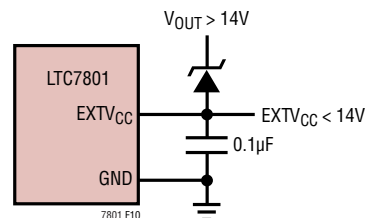

Figure 10. Using a Zener Diode Between V_{OUT} and $EXTV_{CC}$
4. $EXTV_{CC}$ connected to the regulator output through an external zener diode. If the output voltage is greater than 14V, a zener diode can be used to drop the necessary voltage between V_{OUT} and $EXTV_{CC}$ such that $EXTV_{CC}$ remains below 14V (Figure 10). In this configuration, a bypass capacitor on $EXTV_{CC}$ of at least 0.1μF is recommended. An optional resistor between $EXTV_{CC}$ and GND can be inserted to ensure adequate bias current through the zener diode.